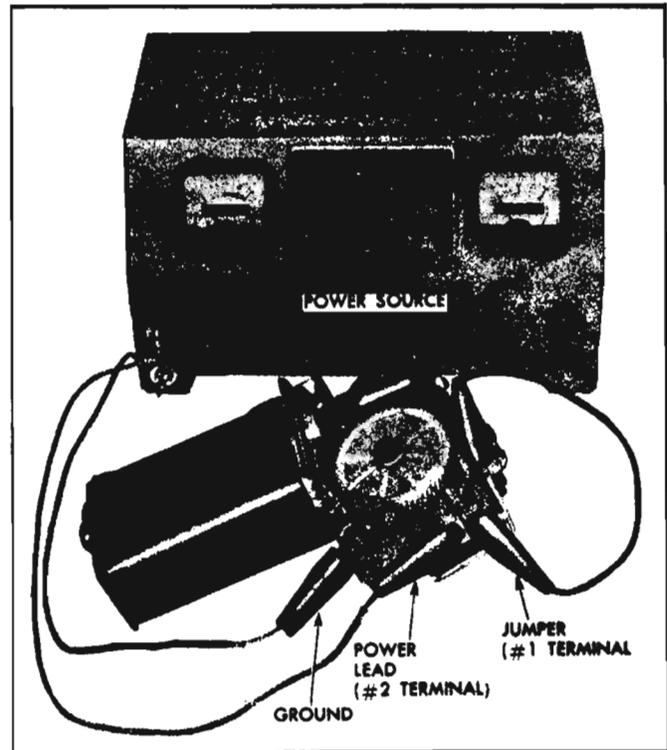

Fig. 8-133—Operating Wiper to Park Position
7. Operate wiper (fig. 8-133) and allow wiper to park by disconnecting the jumper wire. This operation is necessary to insure that wiper is in park while installing crank arm.
- With ignition switch on check for 12 volts at feed wire terminal that connects to the No. 2 wiper terminal (fig. 8-133). If no voltage reading was obtained, check car wiring.
- If correct voltage is obtained in step 2, connect 12 volts to No. 2 terminal (fig. 8-133) and connect a jumper wire from the No. 1 terminal to ground. If wiper operates, a defective dash switch or broken wire to dash switch is indicated.
Connect wiper to 12 volt supply as shown in Figure 8-133, except that an ammeter should be used in the "power lead" and note current draw.